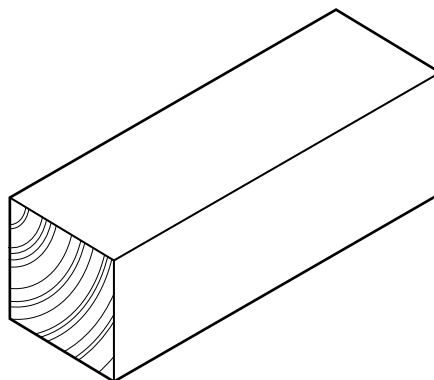

Fig. 14
- (e) Fig. 14 shows a length of beech that will be used to make the round shape.
Add sketches and notes to Fig. 14 to show how the beech would be prepared **before** it is set up on a wood turning lathe.